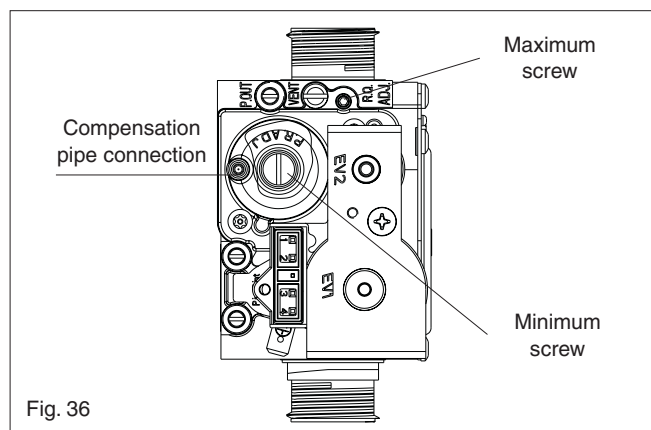

Fig. 36
- Using a 2,5mm Allen key, very slowly turn the minimum adjustment screw (see fig. 36) – clockwise to increase, counter clockwise to decrease - until the correct value is displayed on the CO₂ analyser (allow time for the analyser to stabilise).